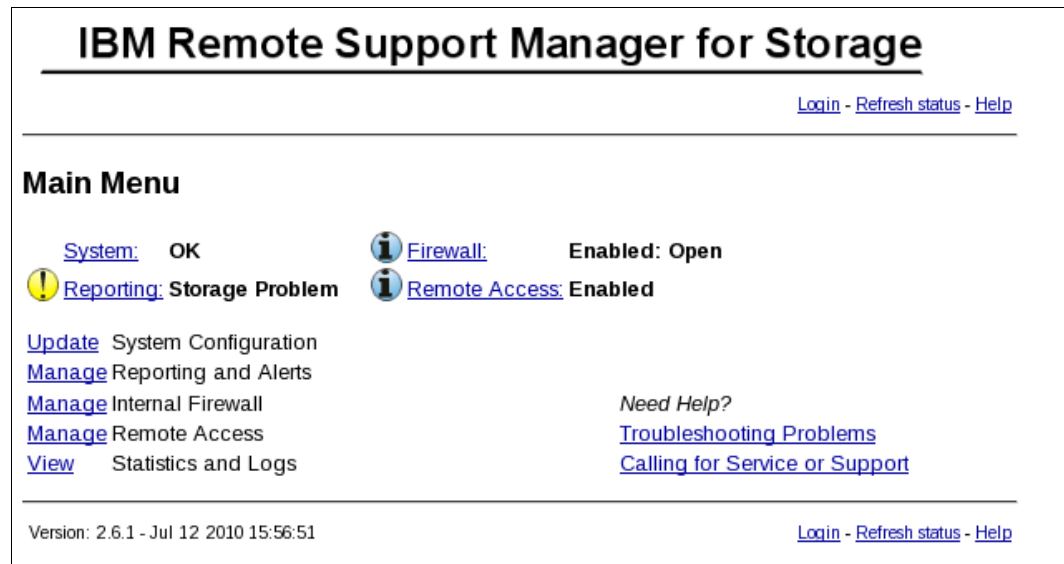

Figure 16-34 Main Menu: Storage Problem
1. When RSM receives SNMP alerts from one of the defined storage subsystems, an attention mark (!) is shown next to the reporting link, as shown in Figure 16-34. Click **Reporting** to see the alerts.